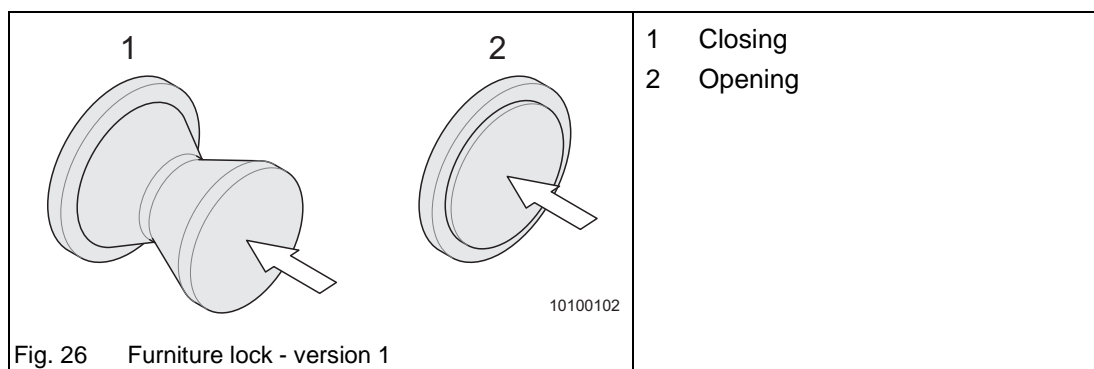

Fig. 26 Furniture lock - version 1
- ➔ Press the locking button (Fig. 26/1), the button springs out. The lock is unlocked.
- ➔ Push in the locking button until it latches into place (Fig. 26/2). The lock is locked.